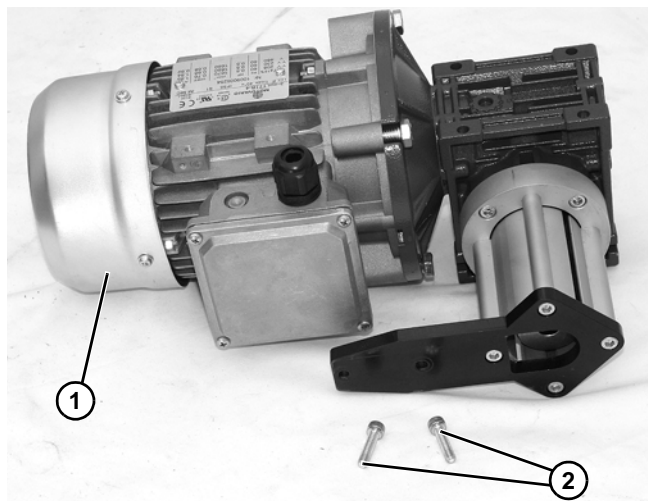

Figure 4
1. Typical components (**Figure 4**)
| <p>Flat belt mounting package shown above (Figure 4), cleated belt mounting package similar.</p> |